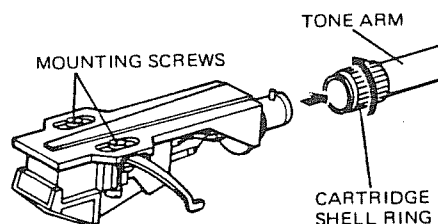

Fig. 2
- Plug cartridge shell into tone arm and tighten cartridge shell ring by turning it counterclockwise. (Fig. 2)